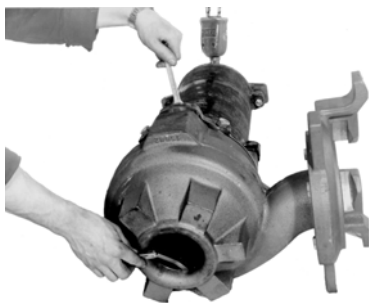

Fig. 11
4. Turn the impeller by hand and check at several points, see fig. 11.